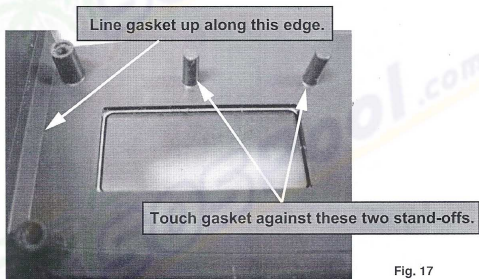

Fig. 17
2. Before removing the backing on the new gasket, verify the installation placement as per **Fig. 17**. The gasket is flexible and **MUST** be installed with all edges straight. Verify the fit before peeling the adhesive backing.